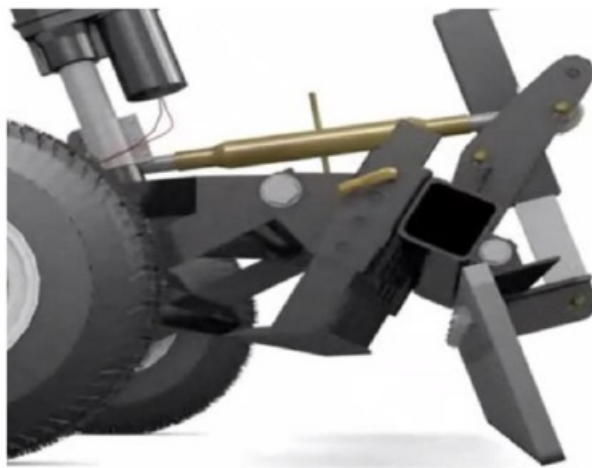

Figure 8
*The finish rake does not need to be at a perfect 90 degree angle, just in a downward position. Figure 8 below shows what the finish rake should look like when in the grading position.